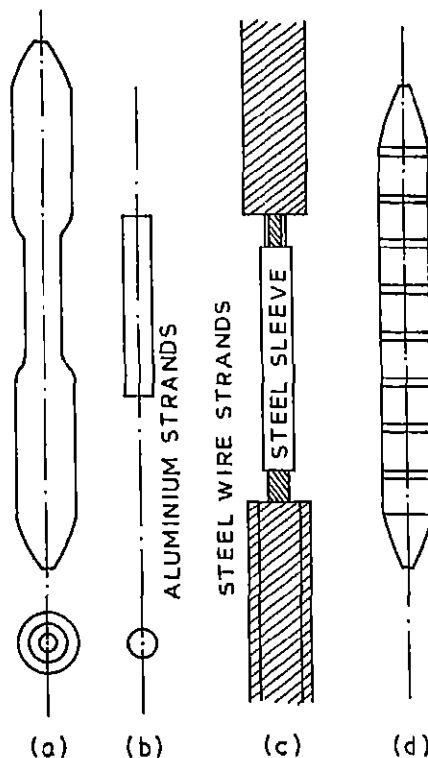

Fig. 18.4 Compression type Splicing Sleeve
- (viii) Insert the steel core ends into the steel compression sleeve, making sure that the ends are jammed against the step in the middle of the sleeve as shown in Fig 18.4(c).
- (xiv) Finally, compress the aluminium sleeve starting from the centre. Make the inner edges of the dies matching the position stencilled on the aluminium sleeve. Make additional compressions advancing to the ends, allowing the dies always to overlap the previous portion, as shown in Fig. 18.4 (d)